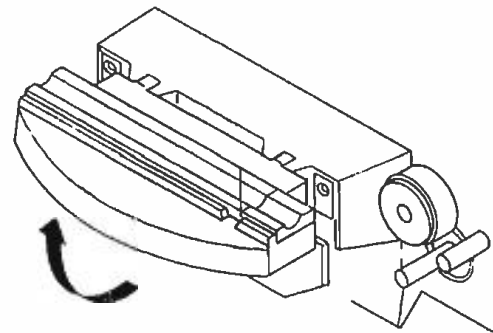
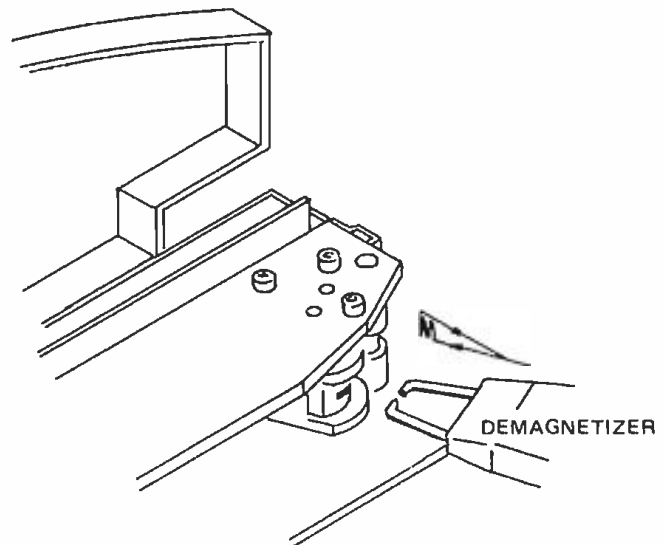

Fig. 4-1 Lifting the Head Cover
Fig. 4-2 Demagnetizing
- (1) Lift the head cover as illustrated in Fig. 4-1.
- (2) Clean each head stack thoroughly with a cotton-tipped applicator dampened with head cleaner.
(1) Turn the unit's power off and remove any recorded tape near the transport. The tape could be partially erased by the demagnetizer.
(2) Lift the head cover as illustrated in Fig. 4-1.
(3) Cover the demagnetizer tips with adhesive tape to prevent scratching the head stacks.
(4) With the demagnetizer held away from the transport, connect the demagnetizer to a power source.
(5) Move the demagnetizer tips slowly close to the head, lightly touch the face of one head stack and slowly move the tips up and down the stack several times. Then slowly withdraw the demagnetizer as shown in Fig. 4-2.